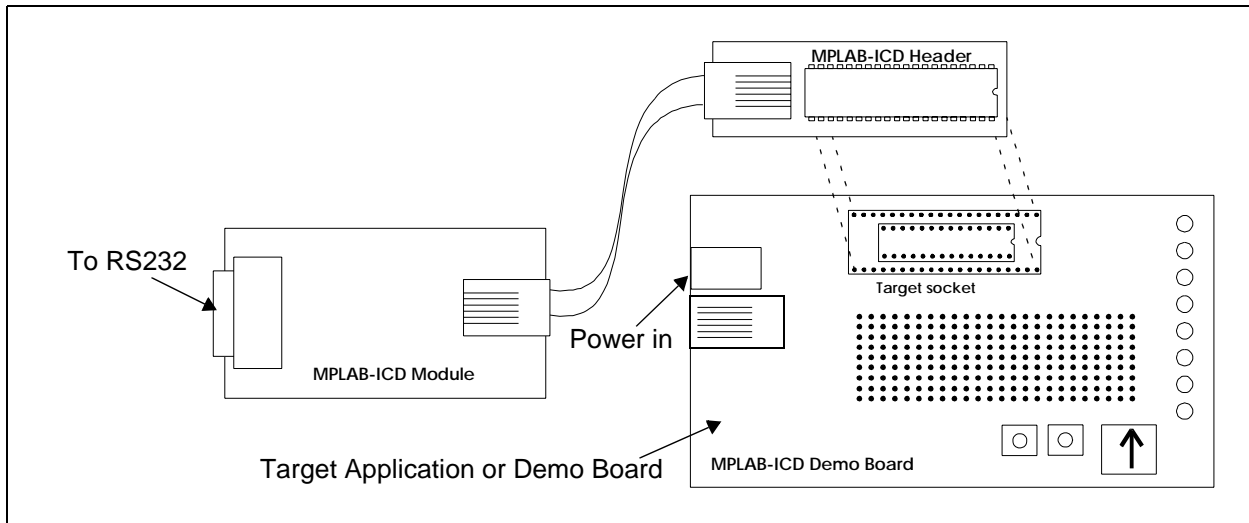

Figure 2.2: MPLAB-ICD Hardware Connection
4. Plug the MPLAB-ICD header into the connection socket in the demo board or target application (Figure 2.2). If you are debugging a 28-pin part, connect the MPLAB-ICD header to a 28-pin SDIP socket in the demo board/target via the 28-pin SDIP connection socket.